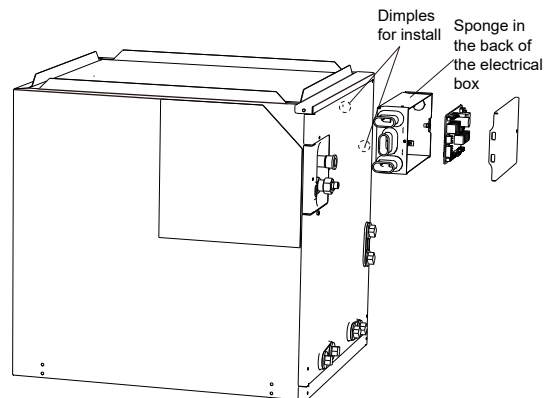
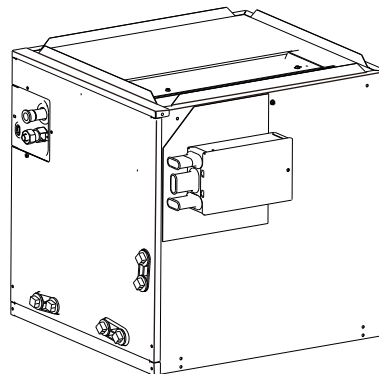
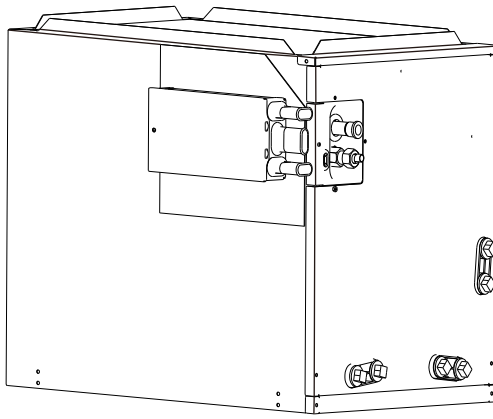

Fig. 3-5 Mounting section view
Fig. 3-6 Install right view
Fig. 3-7 Install left view
- (1) Only install the mitigation kit in the designated locations to avoid damaging the coil.
- (2) When installing the mitigation control kit, do not use screws more than 0.4 inches long to prevent screws from penetrating the glass fiber cotton;
- (3) When installing the mitigation control kit, please check that the screws are away from the coil tubes when installed;
- (4) When mounted on the side, the electric control box can be aligned with the indicating label arrangement, as shown Fig. 3-6 and Fig. 3-7;
(5) In the side installation, if the drill is used during installation, the drilling depth should not exceed 0.2 inches to prevent the glass fiber cotton from being hit;
(6) When installing the mitigation kit on the front panel, use the locating dimples in the panel as shown in Fig. 3-5;